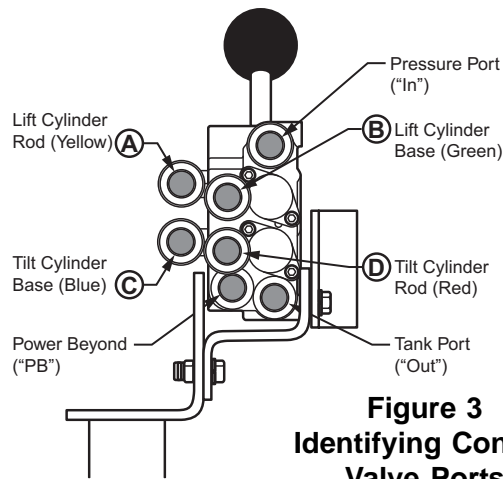

Figure 3
1. Install 9/16 x 9/16 x 90° elbow fittings (7) into working ports A and C of valve (1). Orient elbow fittings (7) parallel with valve body to point in same direction as valve ports B and D, then tighten jam nuts to lock elbows in position. Install 9/16 x 9/16 straight fittings (8) into working ports B and D of valve (1). Install 9/16 x 3/8 straight fittings (9) into fittings (7 & 8) and install female quick couplers (10) and large identification bands (11) onto straight fittings (9).
NOTE: Be sure to attach color-coded identification bands (11) in sequence shown in Figure 3.
2. Fasten valve (1) to valve mounting plate (23) with tank and power beyond ports to bottom. Using 3/8" x 2 1/4" bolts (30), 3/8" x 1" bolt (27), and 3/8" hex locknut (5). Fasten valve shield (18) to valve (1) through mounting plate (23) using 5/16" x 1" cap screws (19) and lock washers (20) in bottom two mounting holes in valve.